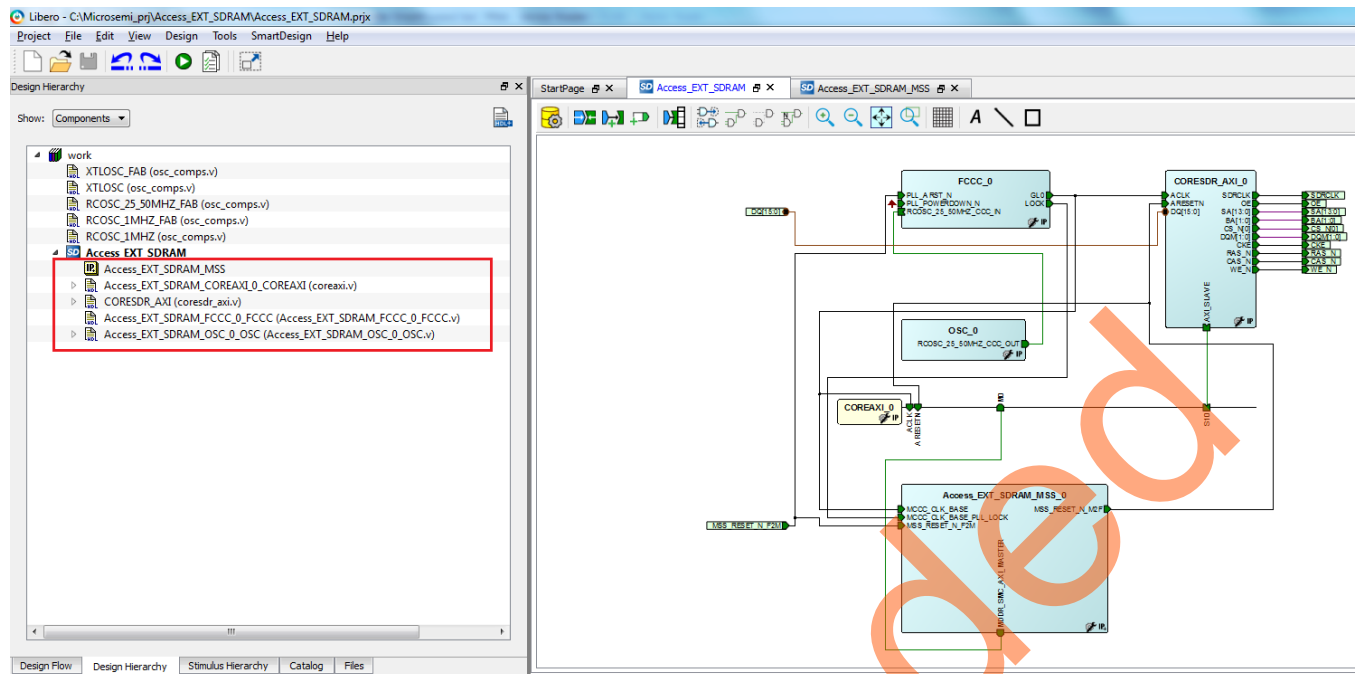

Figure 25. Design Hierarchy
3. After generation, the design hierarchy can be found in the **Design Hierarchy** pane of the Libero SoC, as shown in Figure 25.